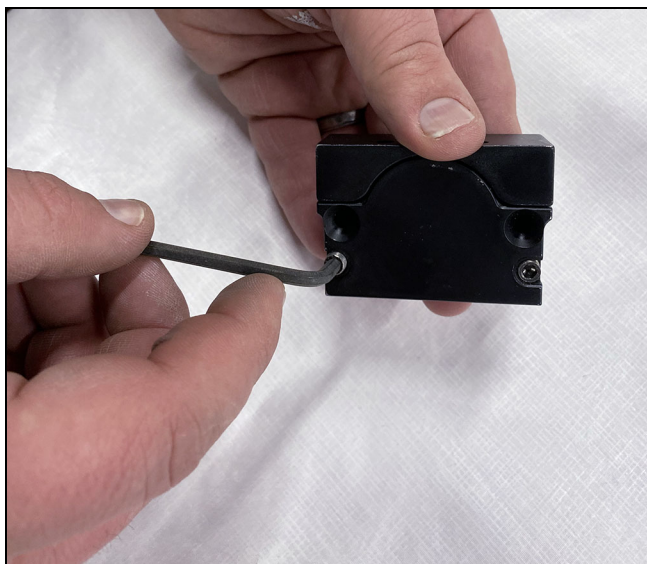

Figure 3
1. On ultimate MSD only: Remove the cover with a 9/64" Allen wrench. See Figure 3. Remove the bottom washer, the pulley and top washer and set aside. See Figure 4. This will give you access to the side screw holes. Attach the pulley base with two #8 x 3" screws into the side RO. See Figure 5. Replace the washers, pulley and cover in the reverse order you removed them.